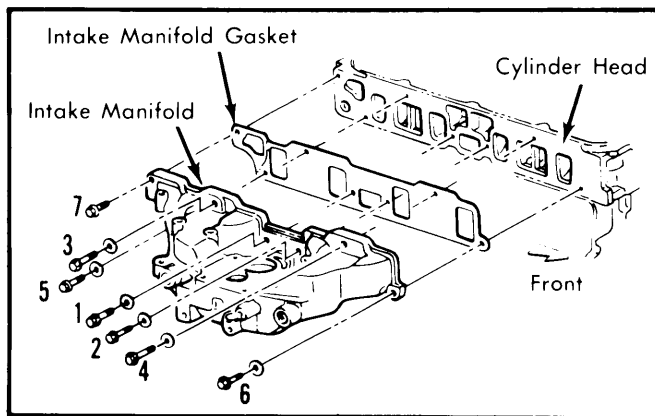

Fig. 1 Intake Manifold Bolt Torque Sequence
2) Torque manifold-to-cylinder head bolts using torque sequence shown in Fig. 1. Reverse removal procedure to complete installation.